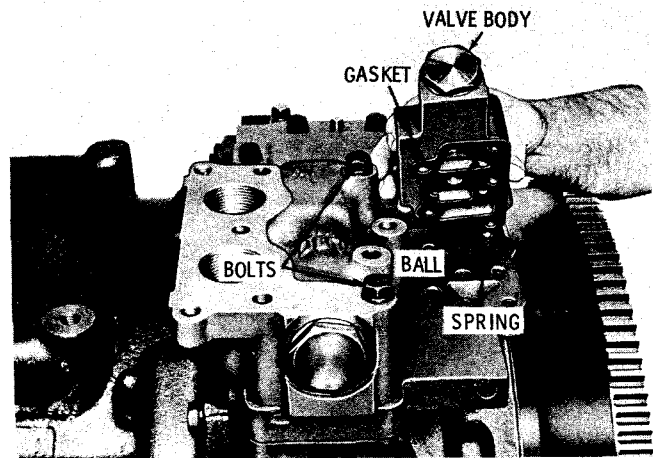

Fig. 7-109. Installing stator control valve body assembly (VCLT, VCLBT)
(21) Retain the main-pressure regulator valve body assembly with two 7/16-14 x 4 1/2-inch bolts and lockwashers (fig. 7-109). Tighten the bolts to 42 to 50 pound feet torque.
(22) Install the spring and ball into the adapter plate (fig. 7-109). Install the stator control valve body assembly and gasket onto the adapter plate. Retain the valve body with five 3/8-16 x 2 1/4-inch bolts and lockwashers. Tighten the bolts to 26 to 32 pound feet torque.